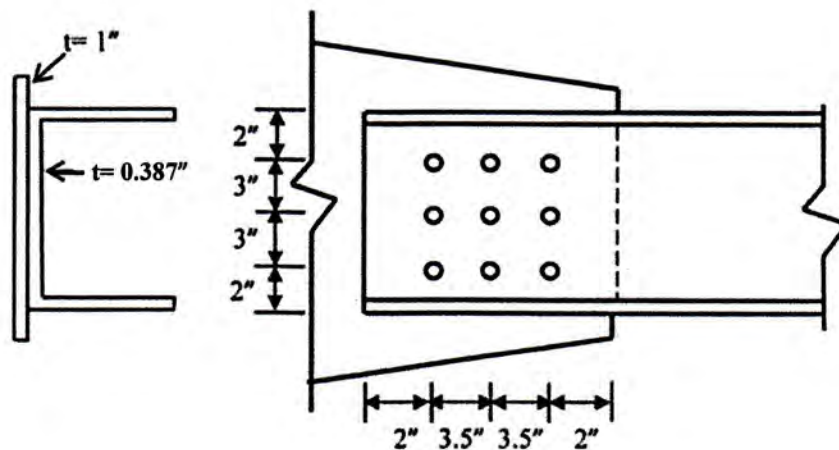

Figure 1
1. Compute the allowable load capacity in tension for the connection of two members in the following figure 1. Connecting members are C12x25 ($A_g=7.35 \text{ in}^2$, thickness of web, $t=0.387 \text{ in}$) channel section and 1 inch thick gusset plate. Use AISC- LRFD method with 7/8-in-diameter A325 bolts in standard holes and A36 steel members. Assume that the effective net area is 85% of the computed net area. (20)